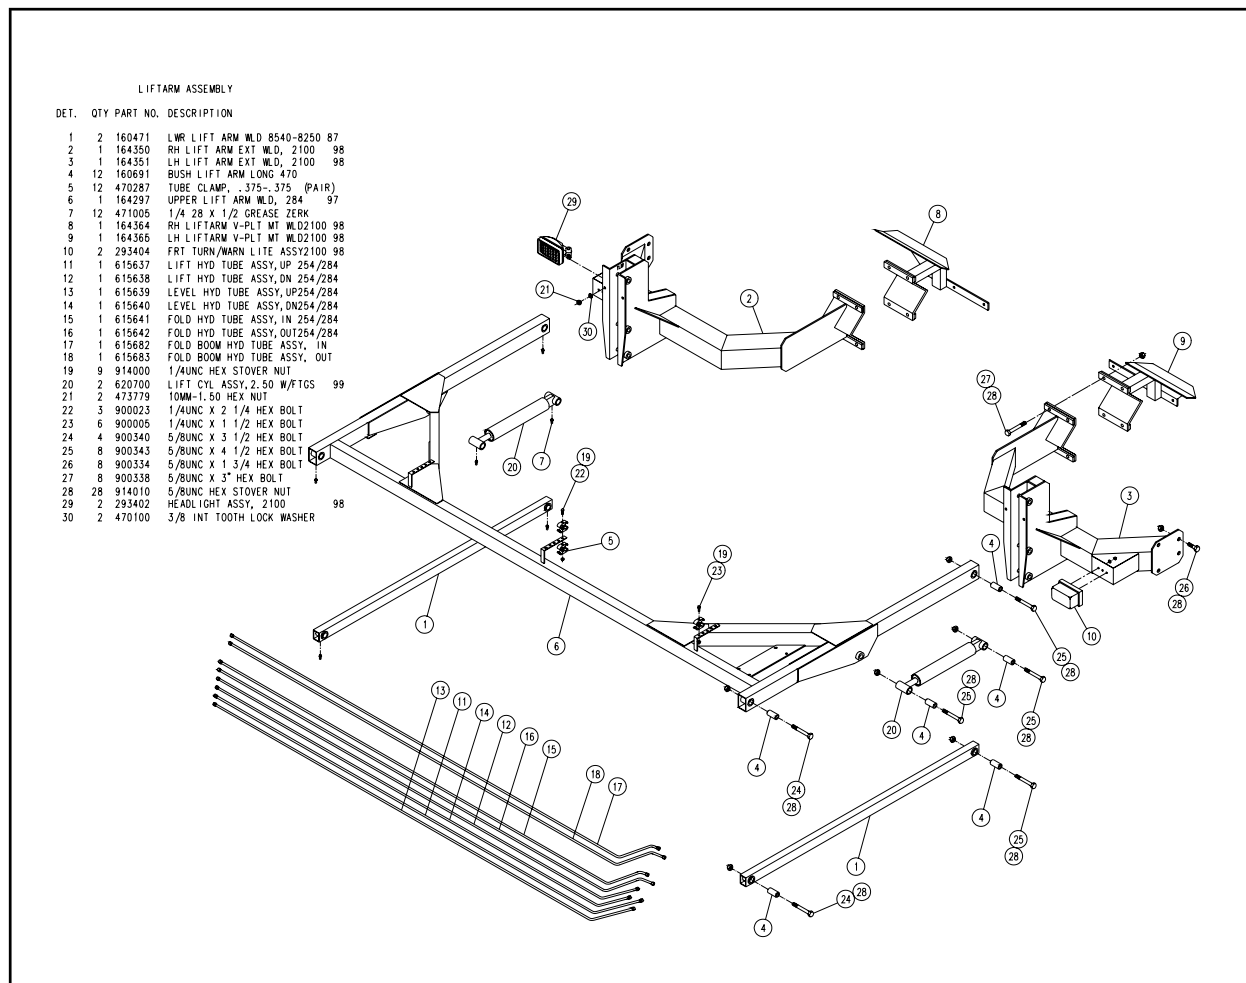

FIG 4.6
1. First, attach right hand (fig. 4.6, items 2 & 8) and left hand (fig. 4.6, items 3 & 9) lift arm mounts and tighten all bolts.
2. Install upper lift arm weldment (fig. 4.6, item 6) to lift arm mounts using proper bushings and bolts provided.
3. Install two lift cylinders (fig. 4.6, item 20), using correct bushings and bolts.
4. After installing the lift cylinders, install two lower lift arm weldments (fig. 4.6, item 1), using correct bushings and bolts.